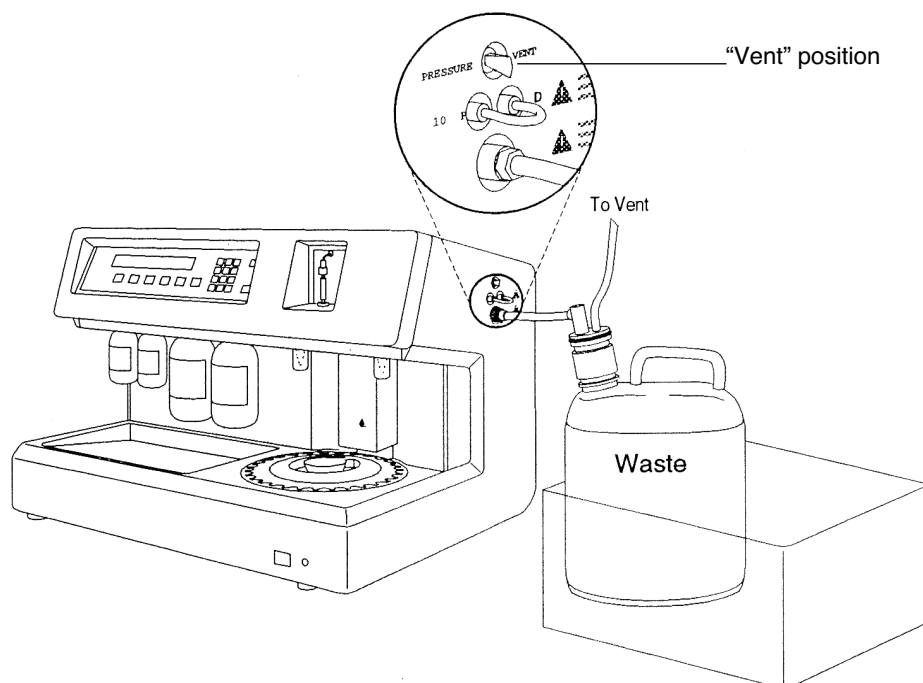

Figure 10. The pressure/vent switch on the right side panel of Synergy
6. Set the Pressure/Vent switch to "Vent." (Figure 10).